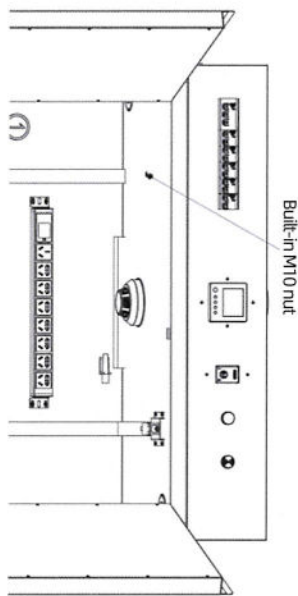

Figure 4
3.Introduction to the installation of suspended automatic fire extinguisher: As shown in Figure 4, an M10 nut is reserved at the top of the cabinet, which can hang a fire extinguisher within 6kg, and users can install the suspended automatic fire extinguisher according to the actual use needs.